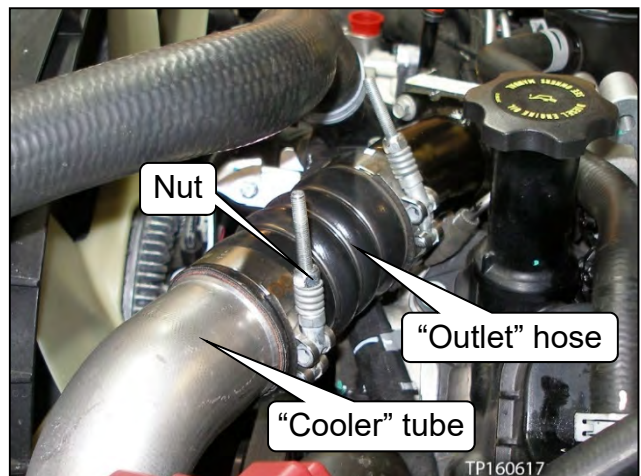

Figure 76
17. Remove the tape, and then connect the charge-air cooler tube to the charge-air cooler outlet hose (see Figure 76).